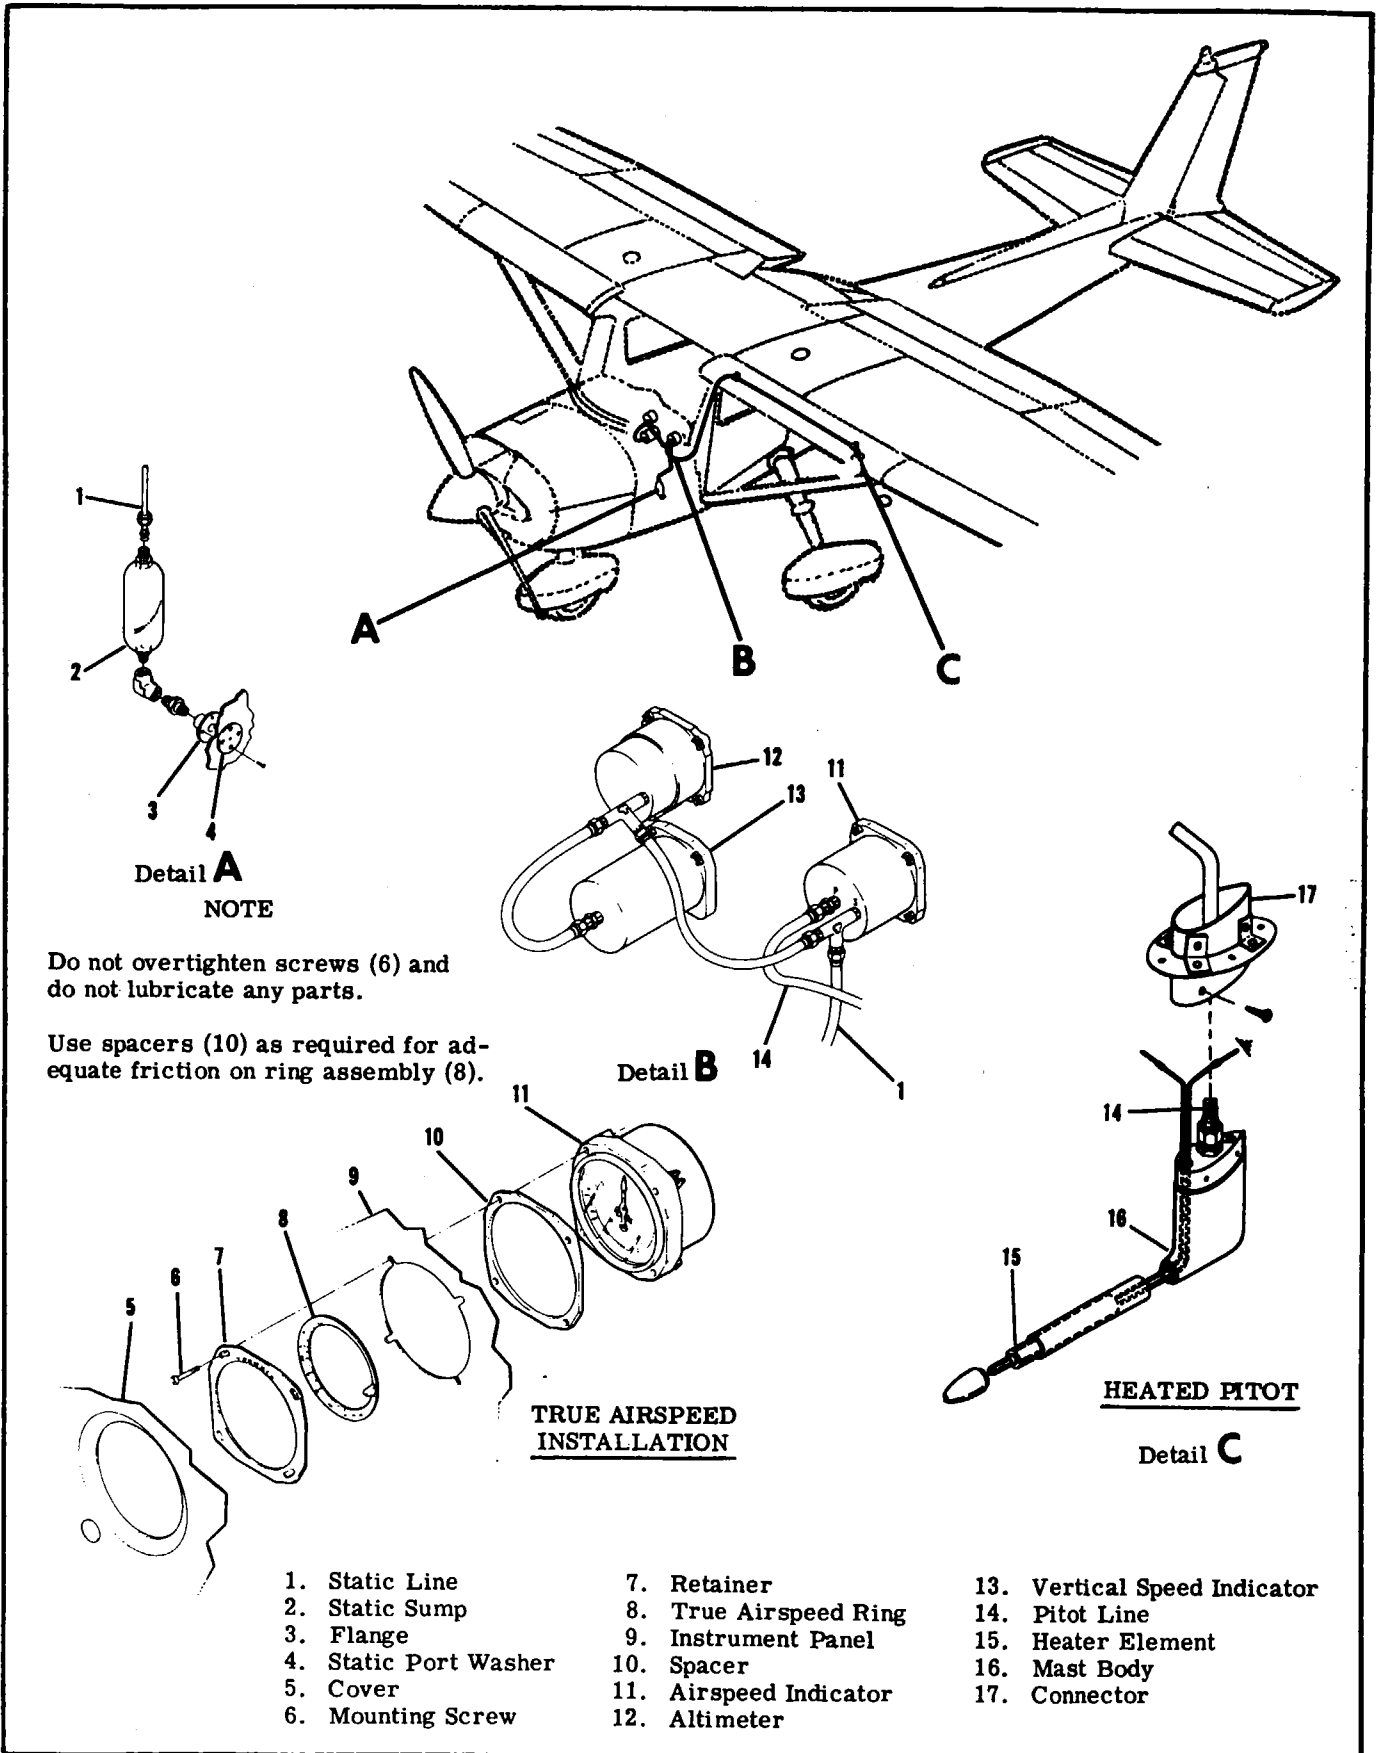

Figure 15-2. Pitot-Static Systems
15-11. DESCRIPTION. (Refer to figure 15-2.) The pitot system conveys ram air pressure to the airspeed indicator. The static system vents vertical speed indicator, altimeter and airspeed indicator to atmospheric pressure through plastic tubing connected to a static port. A static line sump is installed at source button to collect condensation in static system. A pitot tube heater may be installed. The heating element is controlled by a switch at instrument panel and powered by the electrical system.
15-16. REMOVAL AND INSTALLATION OF COMPONENTS. (Refer to figure 15-2.) To remove pitot mast remove four mounting screws on side of connector (17) and pull mast out of connector far enough to disconnect pitot line (14). Electrical connections to heater assembly (if installed) may be disconnected through wing access opening just in-board of mast. Pitot and static lines are removed in the usual manner, after removing wing access plates, lower wing fairing strip and upholstery as required. Installation of tubing will be simpler if a guide wire is drawn in as tubing is removed from wing. The tubing may be removed intact by drawing it out through cabin and right door. When replacing fittings of pitot and static pressure lines, use anti-seize compound sparingly on male threads of both metal and plastic connections. Avoid excess compound which might enter lines. Tighten connections firmly, but avoid overtightening and distorting fittings. If twisting of plastic tubing is encountered when tightening fittings, VV-P-236 (USP Petrolatum), may be applied sparingly between tubing and fittings.
15-18. TRUE AIRSPEED INDICATOR. A true airspeed indicator may be installed. This indicator, equipped with a conversion ring, may be rotated until pressure altitude is aligned with outside air temperature, then airspeed indicated on the instrument is read as true airspeed on the adjustable ring. Refer to figure 15-2 for removal and installation. Upon installa-